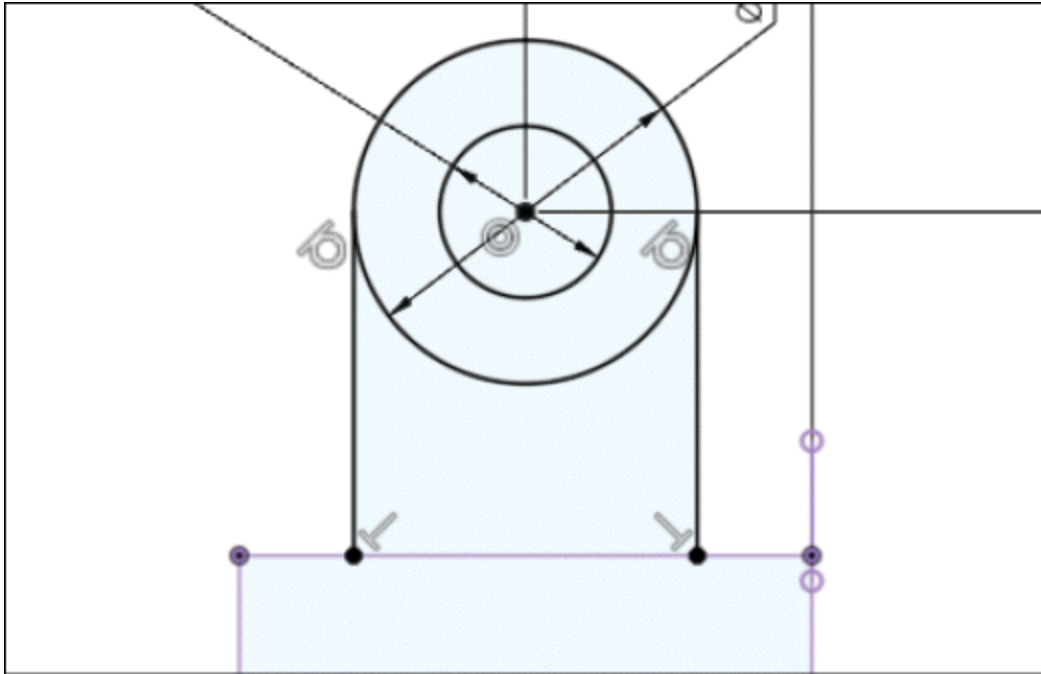

Figure-52. Lines created
- Select **Line** tool from **CREATE** drop-down and create the lines as shown in Figure-52.